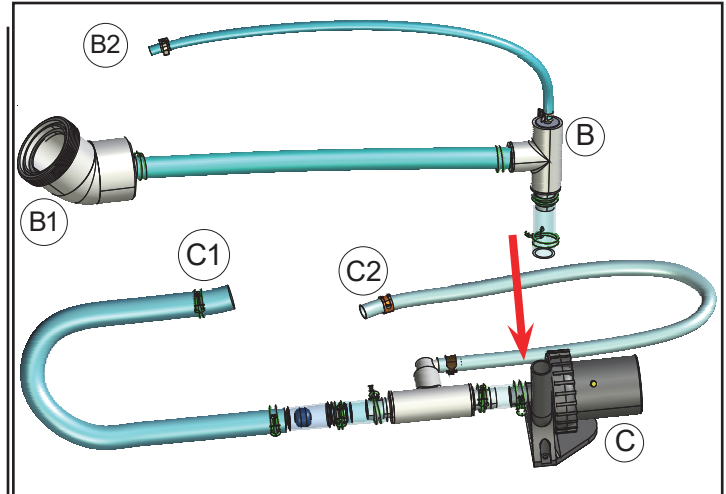

Figure 12.1
STEP 8 ASSEMBLE ASSEMBLY (B) AND (C)
- Locate Circulation Pump To Heater Inlet Assembly (B) that comes in kit.
- Connect Circulation Pump to Heater Inlet Assembly (B) into Circulation Pump Assembly (C) by connecting the bottom part of the Assembly (B) to the circulation pump outlet connection (Figure 12.1).